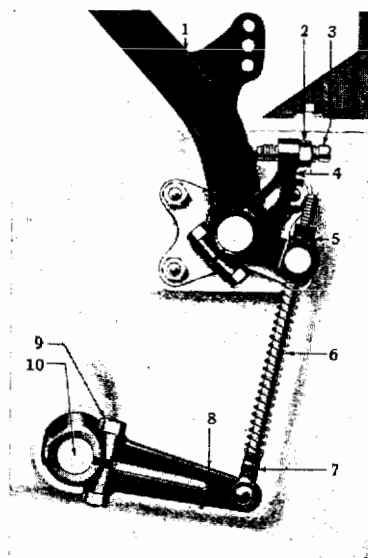

Fig. 95
needless wear on the facing on the discs. Continual slipping of the clutch is liable to result in buckled or warped clutch plates. The clutch pedal is adjusted when the car leaves the factory and should need no further attention until the facing on the discs has worn so that although the pedal will return to its normal position the discs are prevented from fully engaging by the set screw stop (3) Fig. 95. This condition causes slipping and rapid wear. To determine if the pedal is correctly adjusted, press down on the pedal pad. There should be approximately 1 inch free travel before the pressure of the clutch spring can be felt and the clutch starts to disengage.
Turn the nut (5) Fig. 95 anti-clockwise or upward one half revolution at a time, until the clutch pedal will move forward approximately one inch (measured at the foot pad) before commencing to release the clutch.